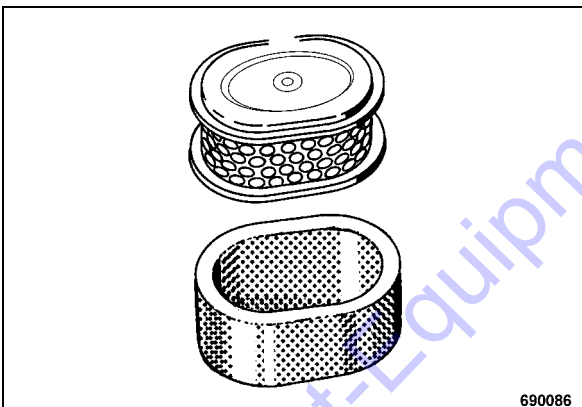

Fig. 46
- Separate the foam rubber and the paper element of the air filter (Fig. 46).